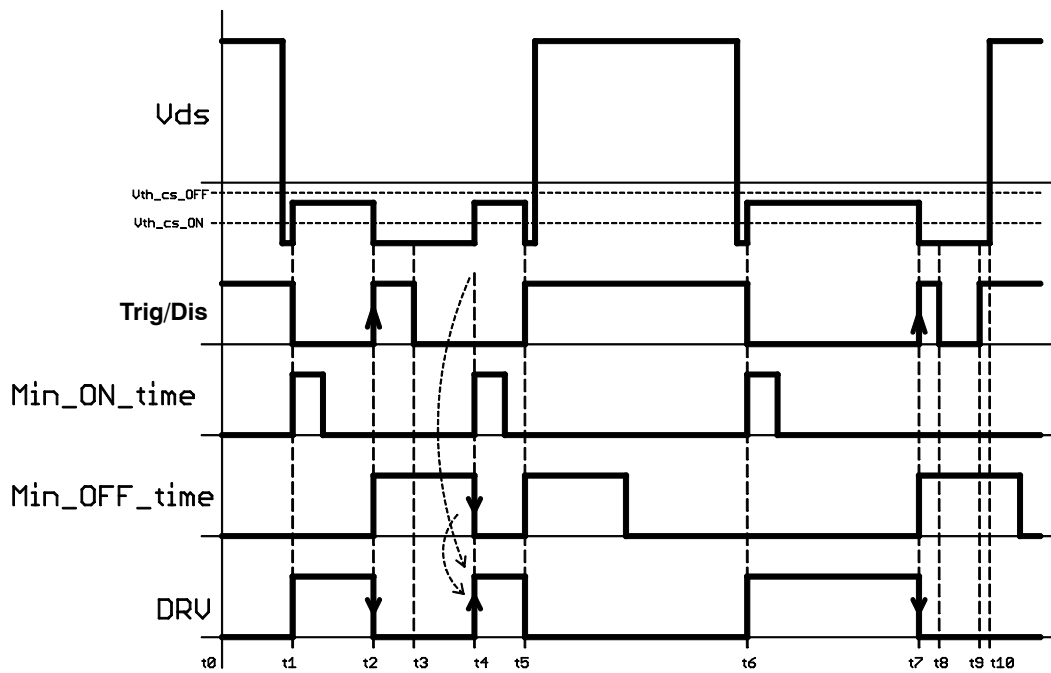

Figure 58. IC Behavior When Multiple Trigger Pulses Appear on Trigger Input
Figure 58 shows IC behavior in case the trigger signal features two pulses during one cycle of the Vds (CS) signal. Trigger enables driver at time t1 and DRV turns ON because the Vds voltage is under Vth\_cs\_ON threshold voltage. The trigger signal and consequently DRV output fall down in time t2. The minimum OFF time generator is triggered in time t2. Trigger drops down to LOW level in time t3 but there is still minimum OFF time sequence present so the DRV output stays low. When the minimum OFF time